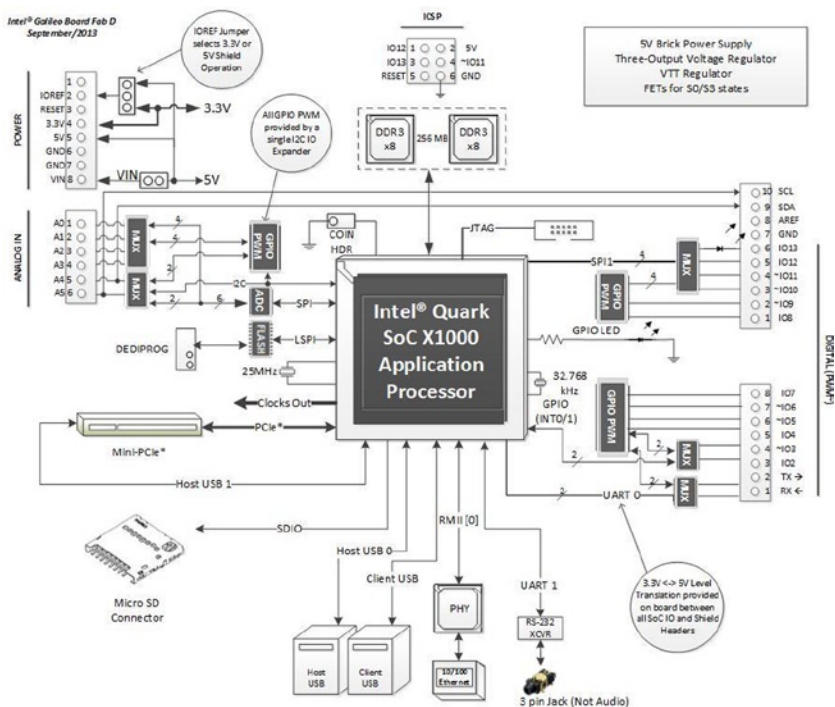
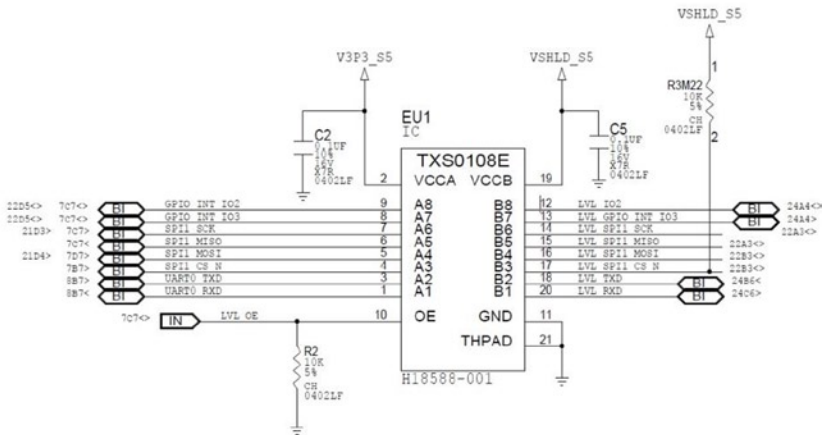

Figure 1-7. Intel Galileo block diagram
Figure 1-8. Bidirectional TXS0108E voltage-level translator
To understand how all the components are connected, take a good look at Figure 1-7.
Explanations of Figure 1-7 are detailed here:
- Looking at the headers in Figure 1-7, note that IO2 and IO3 are the only pins connected directly to Intel Quark. All the other IO pins are connected to the Cypress GPIO expander. This means that pins IO2 and IO3 are faster and are managed directly by the SoC. The other IO pins need to be managed through I2C commands sent to the Cypress GPIO expander, which means they take more time and reduce performance. Only pins IO2 and IO3 are interruptible (INT 0 and 1, respectively).
From the schematics, you can check the block diagram represented in Figure 1-7. You can also check many other details like the bidirectional TXS0108E voltage-level translators used to convert the header voltage levels, as you can see in Figure 1-8.